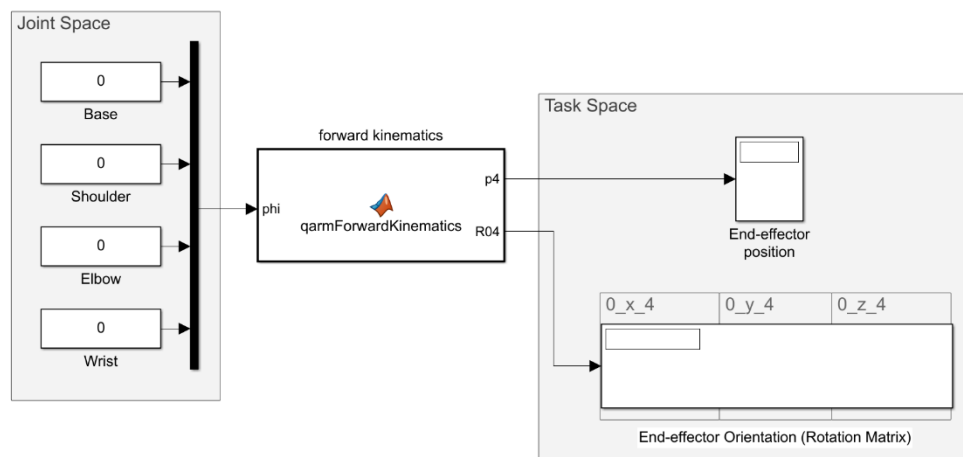

Figure 1: Forward Kinematics Simulink model.
1. Open the ForwardKinematics.slx model via MATLAB. This will be used to implement and validate your forward kinematics formulation. The 'Task Space' section will display the position and the orientation matrix of the end-effector frame with respect to the base frame corresponding to the static joint configurations described in the 'Joint Space' section, as shown in Figure 1.
4. Complete the DH Table below for the QArm manipulator based on the schematic in Figure 1 from the Workspace Identification Concept Review document.
The first plot (Figure 1: QArm Workspace) provides a 3D plot of the end-effector trajectory. It draws the end-effector trajectory of the manipulator in 3D to help you visualize the end-effector motion and its extremes. Rotate the 3D plot using the  tool at the top right of the plot. Take note of the workspace limits, and take screenshots of the X vs Y, Y vs Z, and X vs Z planes.